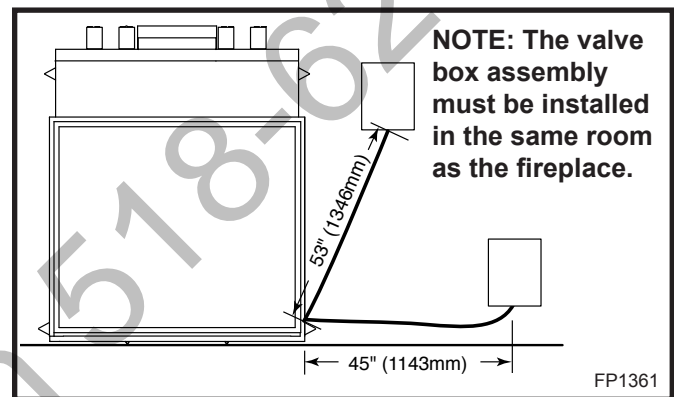

Fig. 7 Valve box assembly location.
5. The gas components are located in the control panel assembly attached to the right side of the unit. Choose the desired location on the wall or mantel for the valve box assembly. The conduit length is 5' (1524mm). (Fig. 7) The framing dimensions for the box are 12 1/4" L x 9 1/4" W x 5 5/8" D (311 mm x 235 mm x 143 mm). When the framing for the box is complete, remove the screws securing the valve box to the outer casing. Carefully remove the valve box and, without stressing the conduit, slide the box into the framed opening. Replace the screws removed from the side of the outer casing.